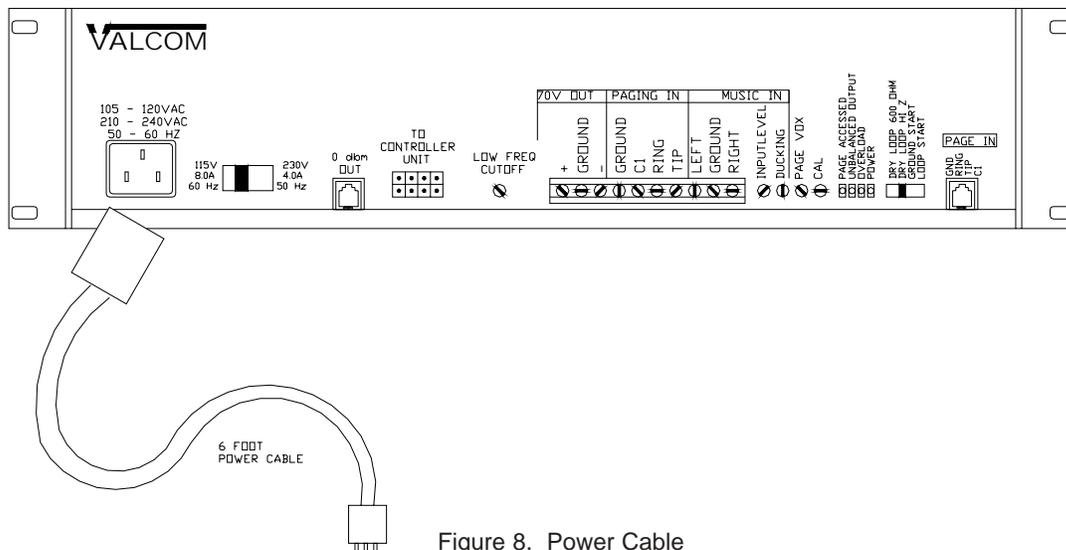

Figure 8. Power Cable
6. Insert power cord into AmpliCenter and into wall outlet (page 6 - Figure 8).